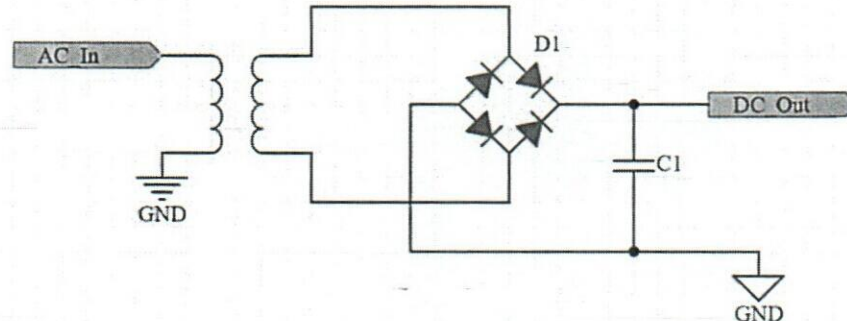

Figure 5.3
- [f] Describe how the AC signal is converted to a DC signal through the consequent sections of the circuit given in **Figure 5.3** by illustrating the waveforms. [05]